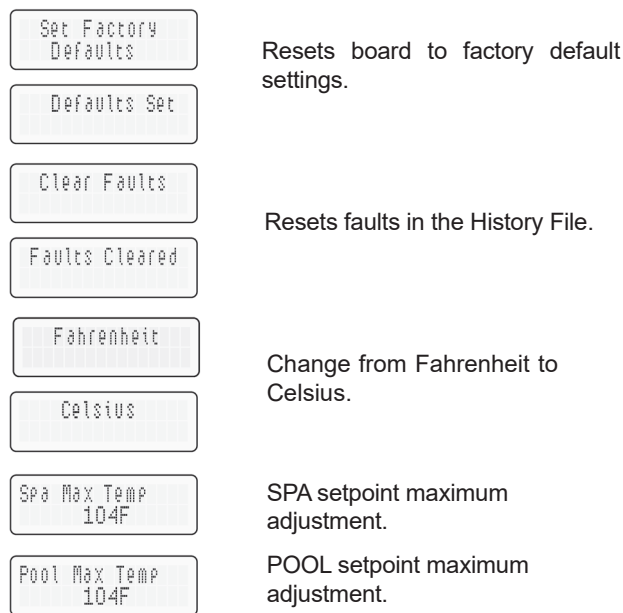

Figure 50. Programmable Events
2. Press the MODE button sequentially until the desired program event is reached. There are 5 different events that can be programmed. They appear in the sequence listed in **Figure 50**.